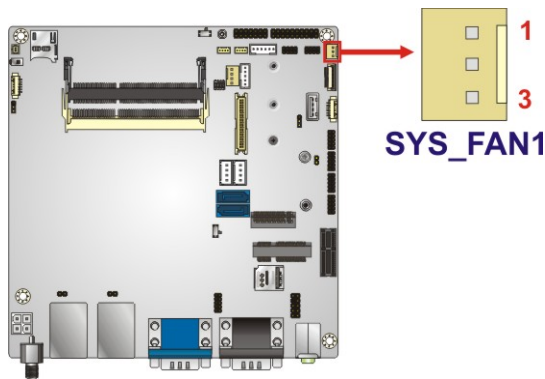

Figure 3-8: System Fan Connector Locations
- CN Location:** See **Figure 3-8**